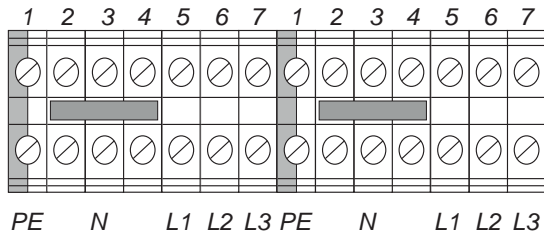

Figure 4-6 AC Input Terminal Block (3-phase)
- 3-phase 208/230/400VAC (Figure 4-6)